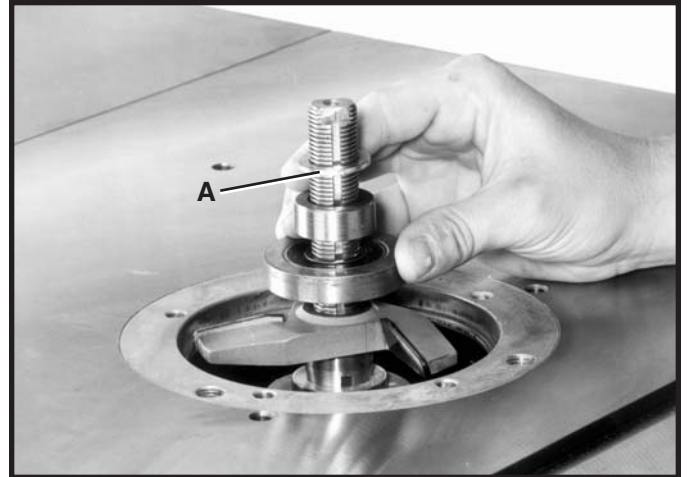

Fig. 38
1. Two 1/2" I.D. and two 3/4" I.D. washers are supplied with the 4-1/2" diameter spindle guard to accommodate 1/2" and 3/4" spindles. These washers are to be positioned directly above and below the spindle guard. Place one of the washers (A) on the spindle, over either the cutter or collar, as shown in Fig. 38.